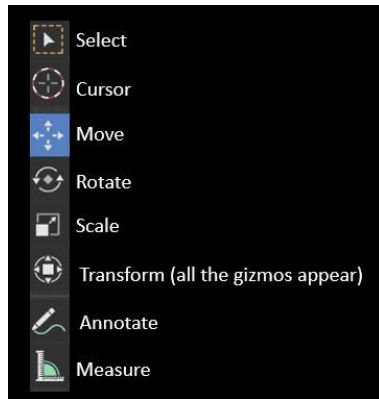
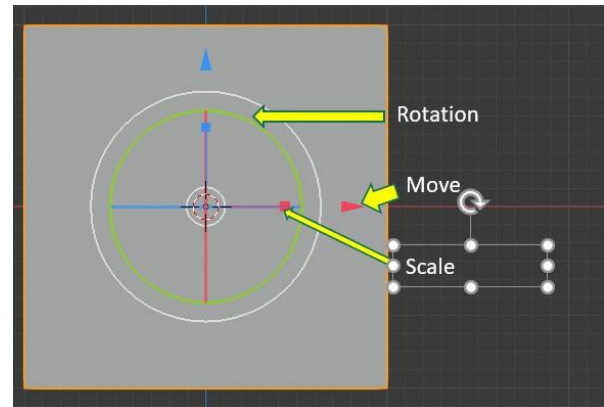
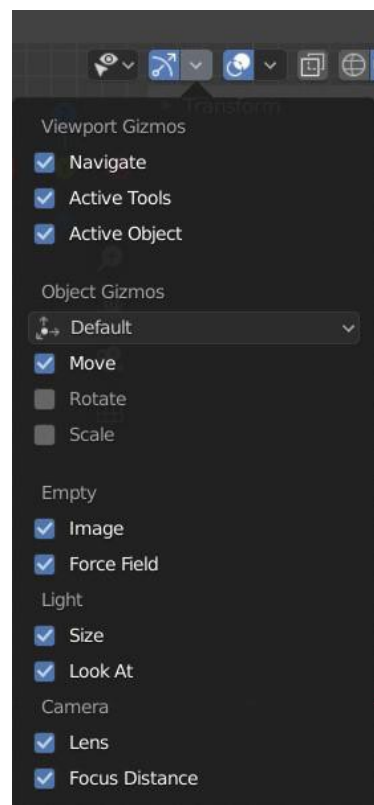
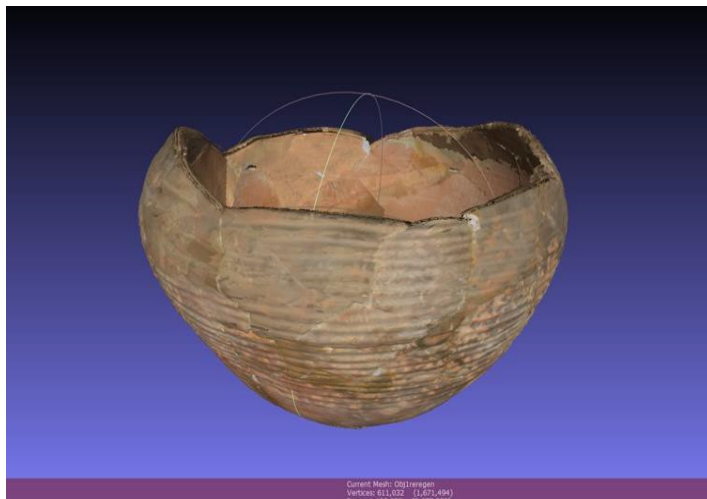

Figure 5
Figure 6
Figure 7
Figure 12
- Manipulate your object with the tool of the Tools panel (**Fig. 5**). When one of the **Move, Rotate, or Scale** tools is active, the respective **gizmo** is shown in the center of the object. A gizmo allows us to operate the tool selected by clicking and dragging one of the colored axes (**Fig. 6**). The **Transform** tool contains all the transformation gizmos in one (move, rotation, scale). **Gizmos** can be activated also from the dropdown menu of the **Gizmo box** (**Fig. 7**).
The object involved in the manual was first used for the author’s internship and the material was provided by Dr. Joanita Vroom, a specialist in ceramics and professor in Archaeology of Medieval and Early Modern Eurasia in Leiden University. The vessel (**Fig. 12**), of which only the lower part of the body together with the bottom are preserved, was found in Amman citadel and brought to Leiden by Henk Franken in ca. 1960s/1970s. The preliminary hypothesis was that it could be placed chronologically in Late Antiquity-Early Islamic while its function remained a mystery. After a more thorough bibliographical research prompted by the required stage of reconstruction, probable parallels to the object were discovered in Uscatescu’s article on the ceramics from Yaras, in Jordan (Fig. 5) characterizing the object as a cooking pot of the early Islamic period (Uscatescu 1996, 189, **Fig. 13**). A further corroboration of this theory arrived from the book *Pottery and Potters* (Homès-Fredericq *et al.* 1986, 209, 224, 235) where similar vessels were included in the images¹.